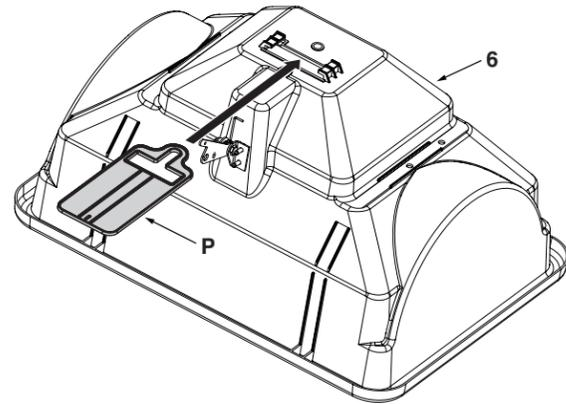

Figure 1
- (1) Pliers
- (2) 7/16" Wrenches
STEP 1: (SEE FIGURE 1)
- Assemble the flow plate (P) to the hopper assembly (6) as shown below.